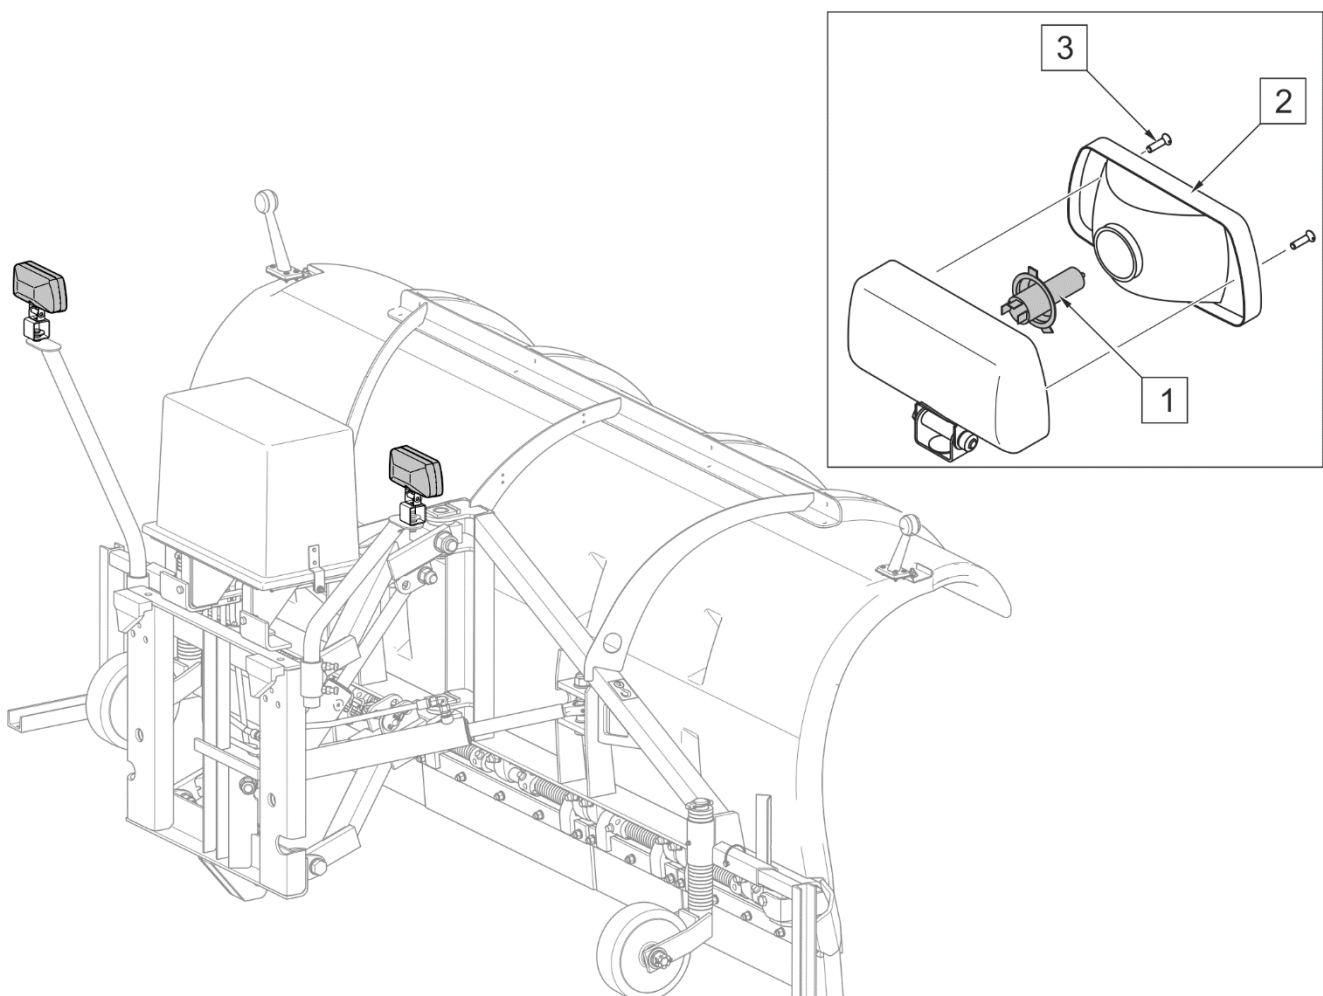

FIGURE 5.6 Changing the working light's bulb
(1) - H4 75/70W 24V or 60/55W 12V bulb (depending on the electrical system version); (2) - light lens; (3) - screw
The working light is equipped with a H4 75/70W 24V bulb or 60/55W 12V bulb - depending on the electrical system version. To replace the working light's bulb (FIGURE 5.6), unscrew the screws (5) and dismount the light lens (3).